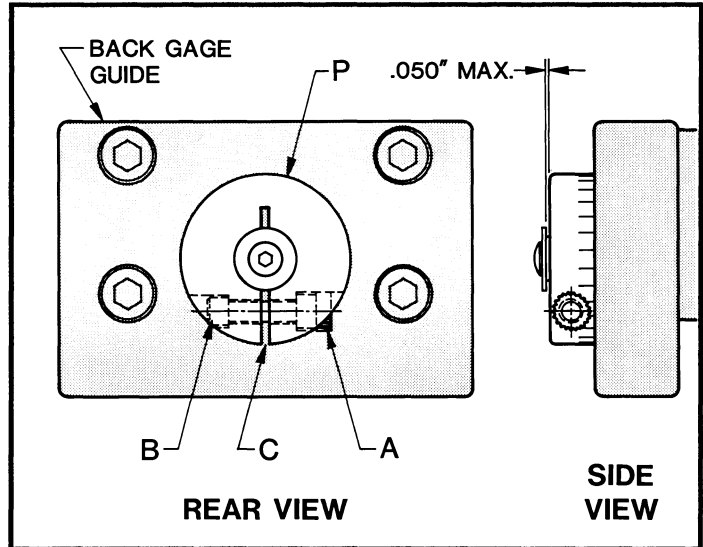

FIGURE 9-24 - Guide adjustment
- A. Loosen locknut "A" and socket head cap screw "B", Figure 9-24. Adjustment can be made at either or both guides, depending upon the amount of movement required.